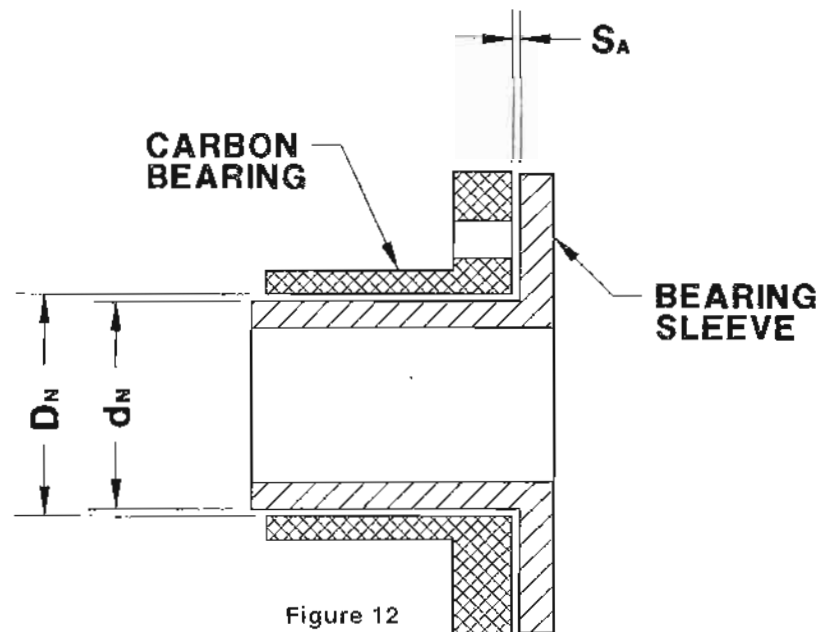

Figure 12
6. Measure front and rear carbon bearing and bearing sleeve diameters, see Figure 12. If difference between diameters D_N and d_N exceed Maximum Bearing Clearance ($S_{N\ MAX}$) in Table 11 then replace bearings and sleeves.
8. Visually check stator lining, "can" (816) for scratches, gouges, and dents. If stator lining is damaged, return to the factory or qualified motor repair shop for replacement.